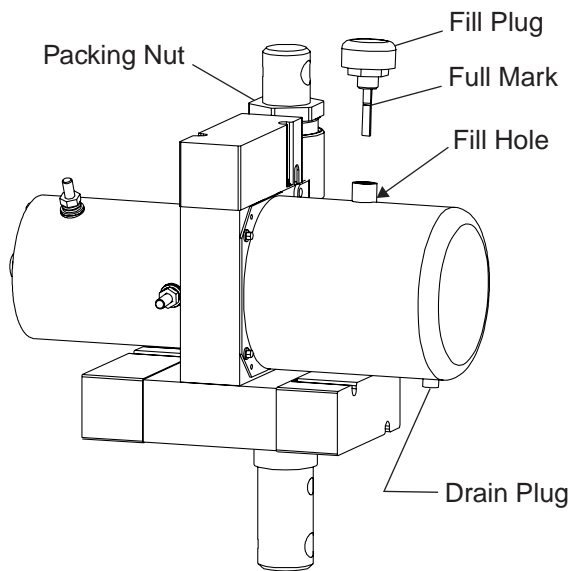

Figure 11
With the snowplow assembly mounted to the vehicle in a Vee position, the lift channel pushed all the way down, and the blade in the Vee position, remove the fill plug located on top of the reservoir. Fill the reservoir through the fill plug hole. DO NOT exceed the fill level. Replace the fill plug. See fluid recommendations in Step 3 of Fluid Change. (See Figure 11.)
1. Remove the drain plug located in the bottom of the reservoir. (See Figure 11 on page 18.)